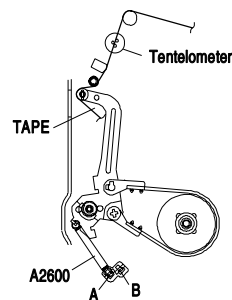

Fig. 18
- Measure the tape tension between the full-track erase head and the reverse roller using the tentelometer (Fig. 18). Set the tape tension to 0.25N...0.33N (25g...33g) by changing the hook-on position of the spring (A / B, Pos. A2600).